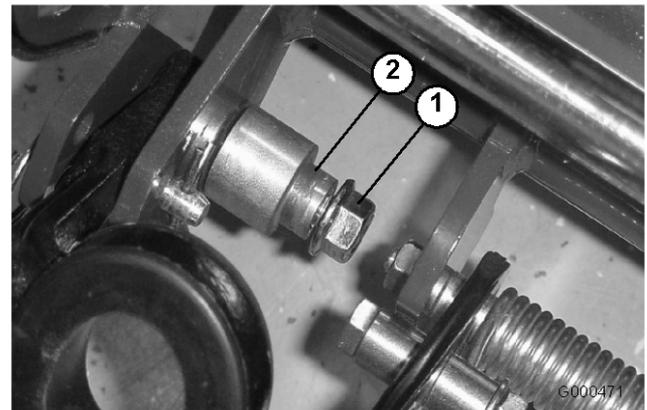

Figure 4
1. Remove the flange lock nut from the capscrew and pivot pin on each side of the mower (Figure 4).